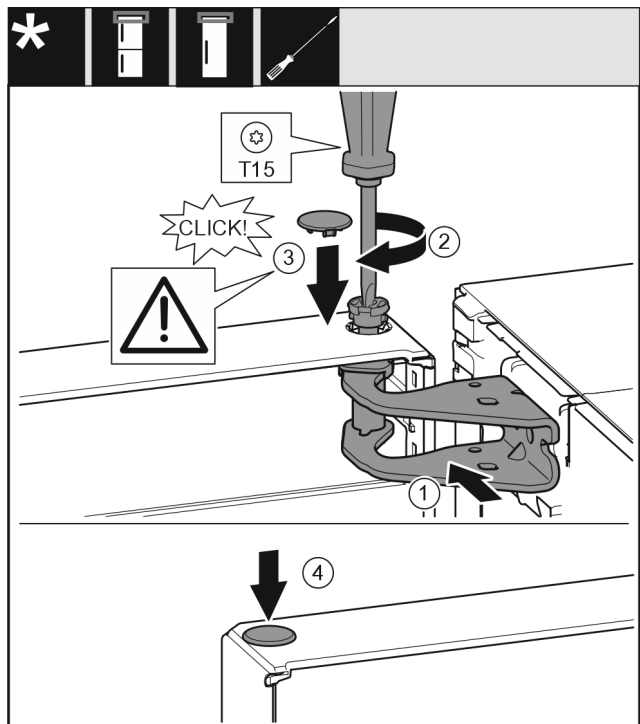

Fig. 26
- ▶ Align the top of the door with opening in the bearing bracket. Fig. 26 (1)
- ▶ Insert the bolt Fig. 26 (2) and use screwdriver to tighten it.
- ▶ Fit the safety cover Fig. 26 (3) to secure the door: Insert the safety cover and check whether the door is resting on it. Otherwise, insert the bolt fully.
- ▶ Insert the plug Fig. 26 (4).